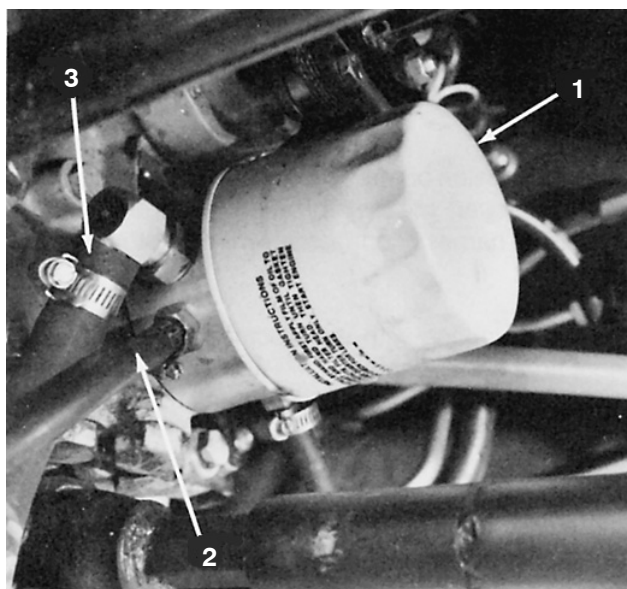

Figure 46
3. Clean the area around the hydraulic oil filter and remove the filter (Fig. 46).